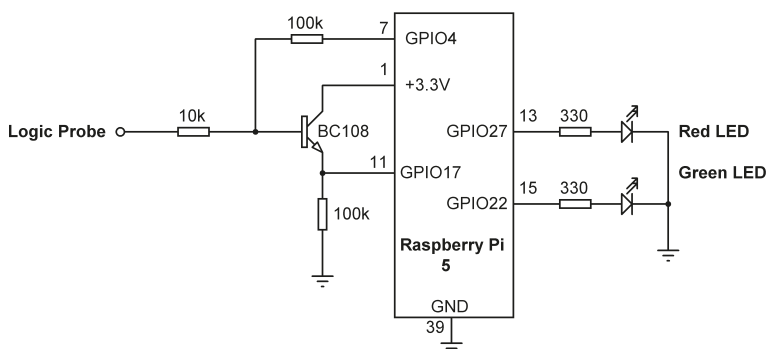

Figure 4.2: Circuit diagram of the project.
**Circuit diagram:** Figure 4.2 shows the circuit diagram. In this project, a type BC108 NPN transistor is used.